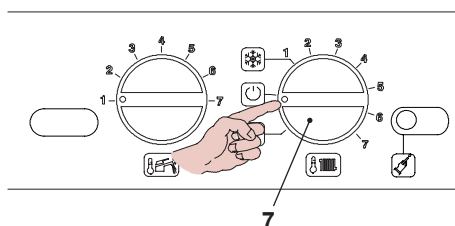

Figure 15.19
- Turn off the boiler by positioning selector 7 to “U” Figure 15.19.